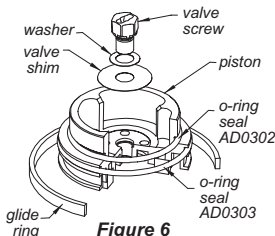

Figure 6
3. Carefully pull the piston shaft out of the large cylinder. The glide ring (Figure 6) will fall off the piston as it exits the large cylinder. Prevent contamination of the seals by keeping all parts clean and free of dirt. **DO NOT** remove the black and silver adjustment screws. Doing so will damage the internal mechanism of the shock.